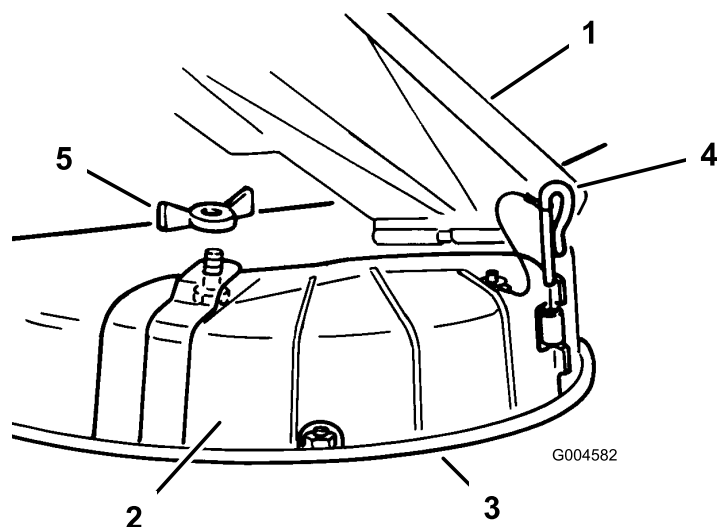

Figure 25
3. Remove the wing nut and bolt securing the cover in place (Figure 25).
4. Remove the hinge pin securing the cover to the deck (Figure 25).
3. Lift the grass deflector and place the discharge cover over the opening onto the lower lip of the mower and slide it into the front hinge (Figure 25).
4. Slide the hinge pin through the hinge (Figure 25).
5. Secure the discharge cover to the mower with the wing nut (Figure 25).